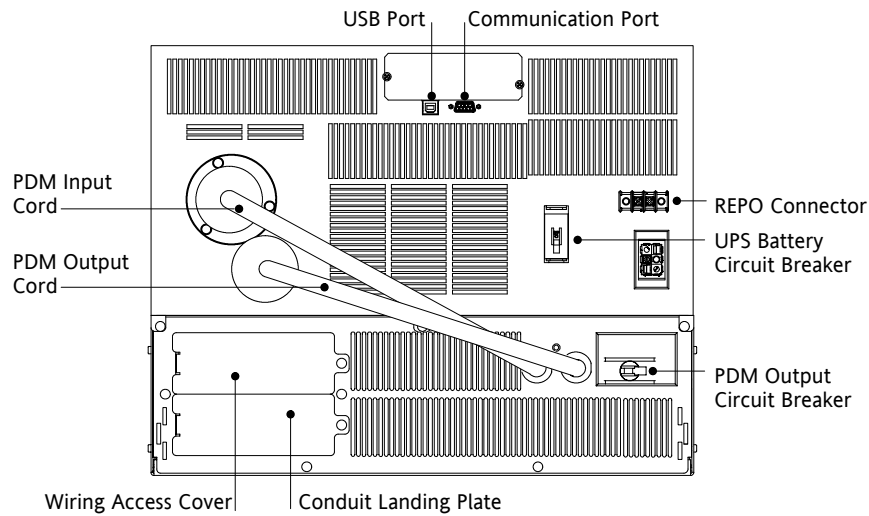

Figure 11. UPS and Hardwired PDM Installation
3. Verify that the PDM output circuit breaker is in the OFF position (see Figure 11).
6. Remove the wiring access cover and the conduit landing plate and retain (see Figure 11).